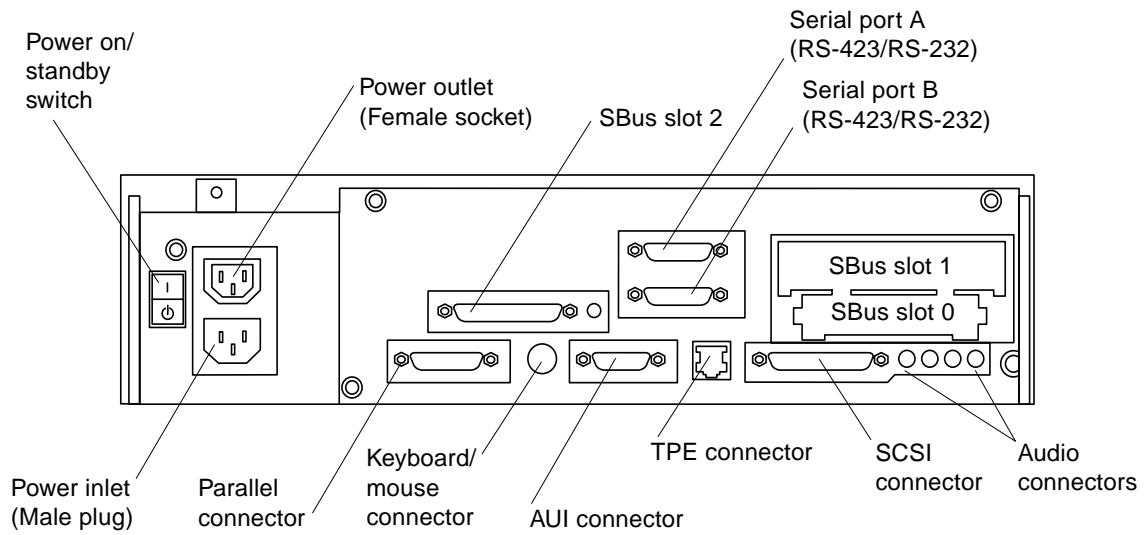

FIGURE 1-2 Rear View of the System
- FIGURE 1-2 shows the rear view of the system.